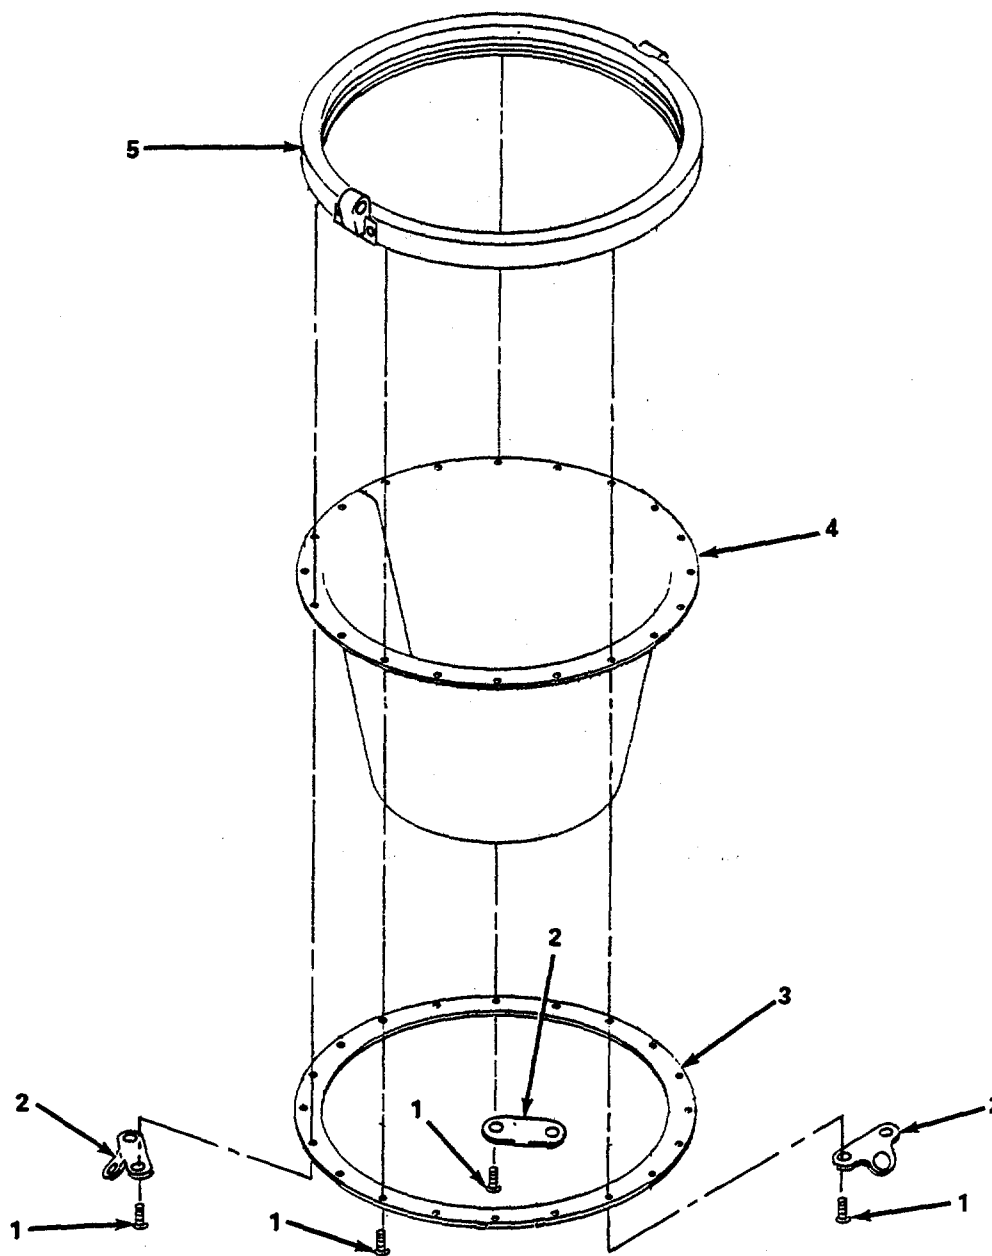

Figure 5-3. Lower Breech Ring Retainer, Replace.
(3) *Replace (lower breech ring retainer).* (figure 5-3)
- (a) Remove 20 screws (1), three jocking harness brackets (2), lower breech ring retainer (3), and neck dam (4) (or drysuit) from breech ring (5).
- (b) Install neck dam (4) (or drysuit) on breech ring (5) and secure with new lower breech ring retainer (3), three jocking harness brackets (2), and 20 screws (1). Torque screws to 18-20 in.-lb (2.1-2.3 Nm) using a staggered sequence.